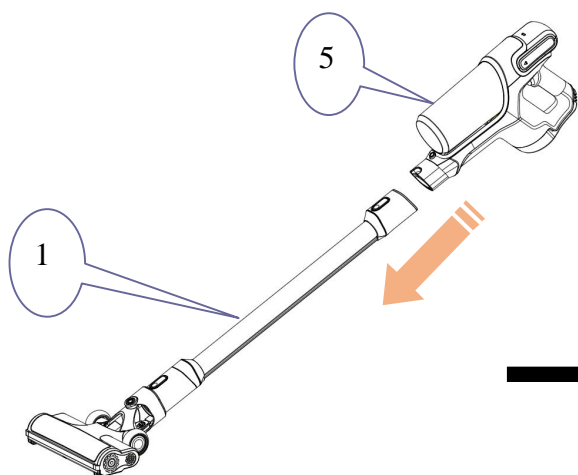

Figure 3c
Slot the main unit (No.5) into the air inlet nozzle of aluminum tube (No.1) until the release key (B) clicks in properly. See figure 3c and 3d.